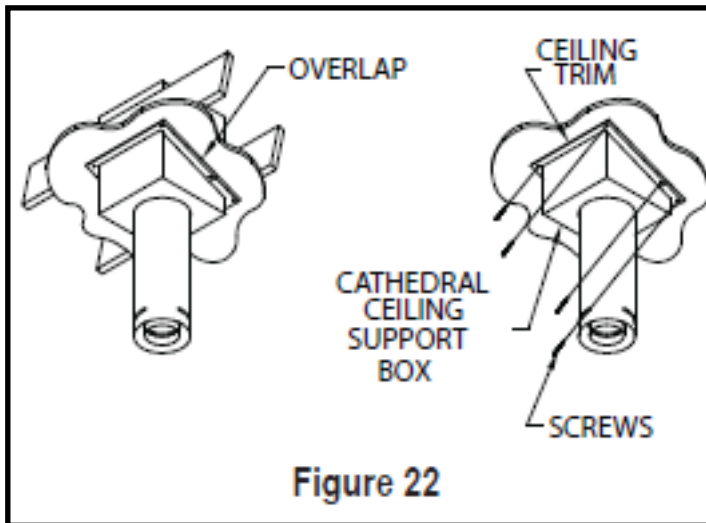

Figure 22
Step 8. Install the black Trim Collar around the outside of the Cathedral Ceiling Support Box. The two pieces of the Trim Collar slide over one another to allow for easy adjustment around the Support Box. Using the six (6) screws provided, secure the four corners and the overlapping sections of the Trim Collar to the underside of ceiling. You may want to pre-drill the holes for the overlapped sections for ease of installation (Fig. 22).